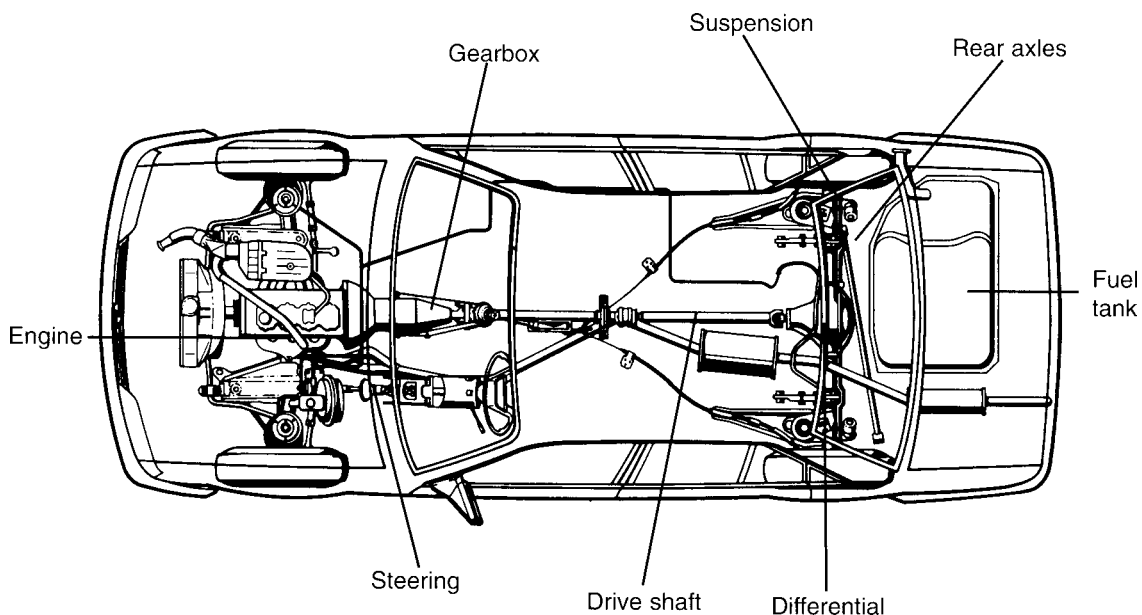

Fig. 1.1 Front engine RWD with integral body mountings
The power units used in the light vehicle can be fitted in a number of different places (Fig. 1.1). The source of power is provided by an **internal combustion engine**. The petrol or spark ignition (SI) engine is the most common, although the diesel or compression ignition (CI) engine is becoming more widely used. These are of the conventional design, where the pistons move up and down in the cylinders. Several other designs have been used; for example the Wankel engine used by Mazda in the RX7 and by Norton in their motor cycle. Another method of propulsion is electricity; the electric vehicle is gaining popularity as there is very little pollution of the atmosphere and it can